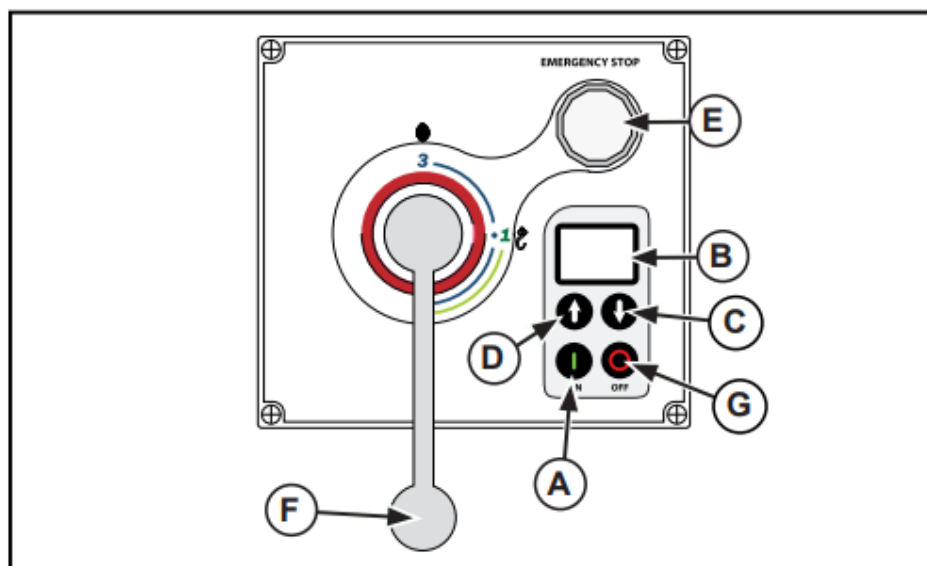

Figure 7. 40 Quart Mixer Control Panel.
2. Select the desired operating speed based on the ingredients. Use the speed select lever (**F**) to set the speed. See Figures 7 or 8.